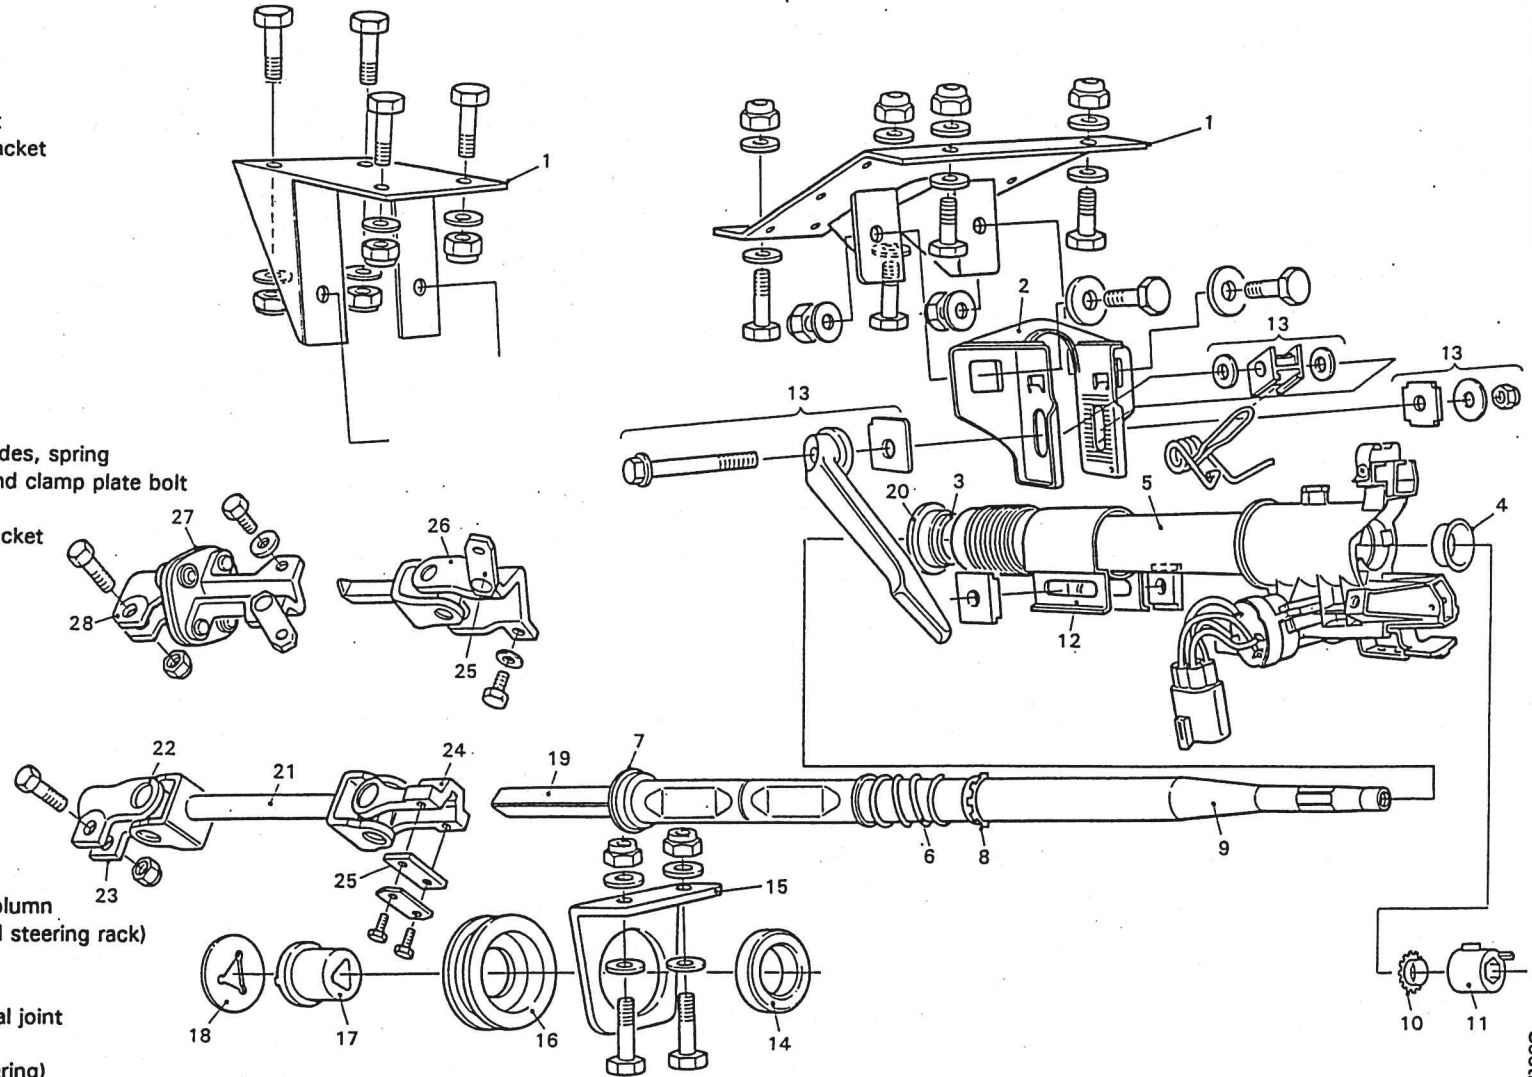

Fig. 2 Steering Column Assembly and Joints to Steering Rack
(Refer to Fig. 2)
13. (Refer to Fig. 2). For manual steering rack cars, with the road wheels centred, fit the intermediate shaft (21) and the universal joint (22) through the gaiter and onto the spline of the steering rack pinion projecting up through into the footwell and tighten the clamp bolt (23) to torque.
14. Rotate the inner steering column fully to the left and then to the right to establish the full extent of travel, then rotate accurately to the centre of travel, only rotating it sufficiently to engage the triangular column (19) into the clamp, then lock into position by tightening the clamp plates (25) to torque with the two bolts provided using Loctite on the threads to secure.
15. (Refer to Fig. 2). For power steering racks, with the road wheels centred, fit the assembled universal (26) and flexi (27) joints (refer to Assembly Stage 2). Secure the clamp bolt (23) to the power steering rack pinion and tighten to torque.
16. Rotate the inner steering column fully to the left and then to the right to establish the full extent of travel, then rotate accurately to the centre of travel, only rotating it sufficiently to engage the triangular column (19) into the clamp of universal joint (26). Lock into position by tightening the clamp plates (25) to torque with the two bolts provided using Loctite on the threads to secure.